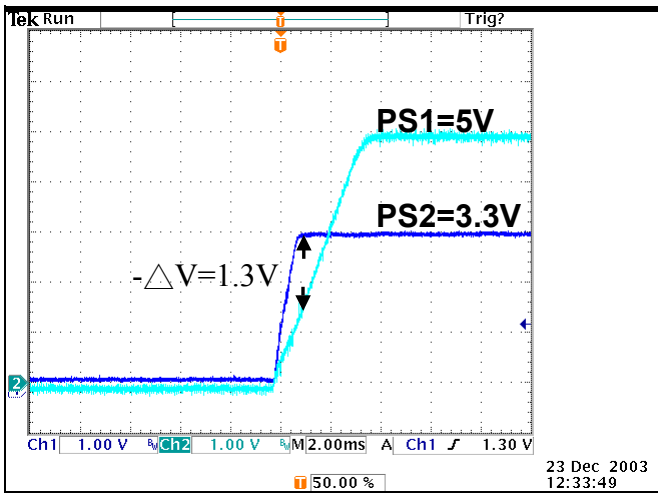

Figure 9. Ratio-metric tracking Power up
For Ratio-Metric applications that need the PS2 supply voltage rises first at power up and falls second at power down. To calculate R1, use the following equation (2) and set  $\Delta V \leq 0.4 \times V_{o_{set,PS2}}$ ,  $\Delta V$  will be negative. The waveforms of power up and down are showed in Figures 9 and 10.